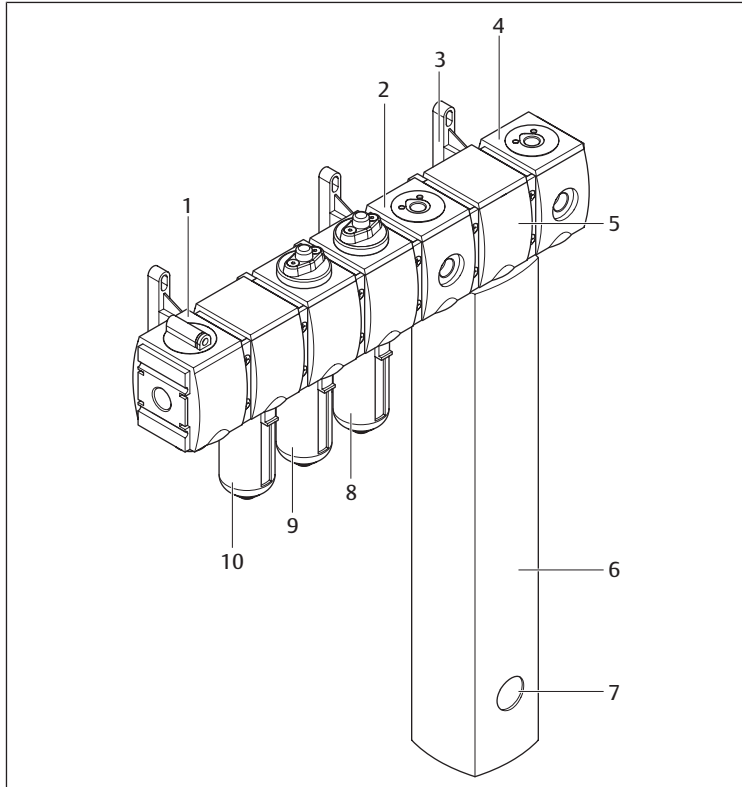

Fig. 1: Assembling and connecting the diaphragm-type dryer
- The purge air opening (see → Fig. 1 (7)) may not be closed.